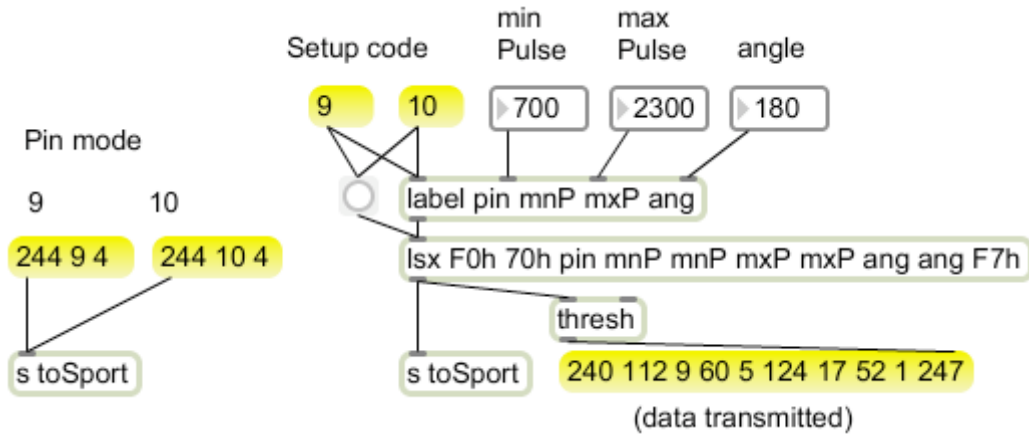

Figure 11.
11. The value 700 was labeled with the name mnP. Since this appears twice in the Lsx arguments, it is automatically broken into least significant byte and most significant byte, labeled LSB and MSB in the format. The message in the right of figure 11 shows how the data input was converted for pin 9. Once you have determined the correct message for your servos, you can just copy the message and send that.